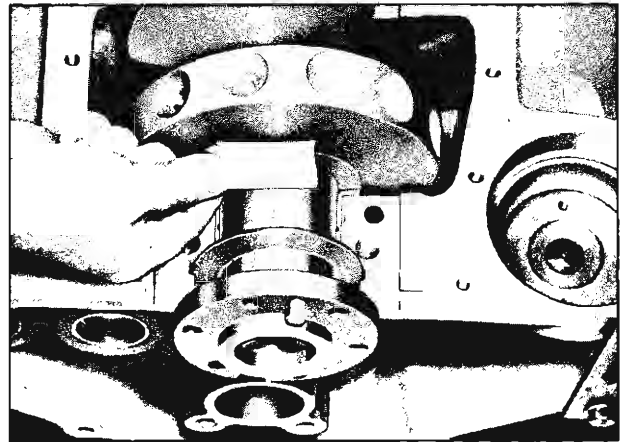

Fig. 165—Measuring Plastigage
5. Without removing the Plastigage, check its compressed width (at the widest point) with the graduations on the Plastigage envelope (fig. 165).